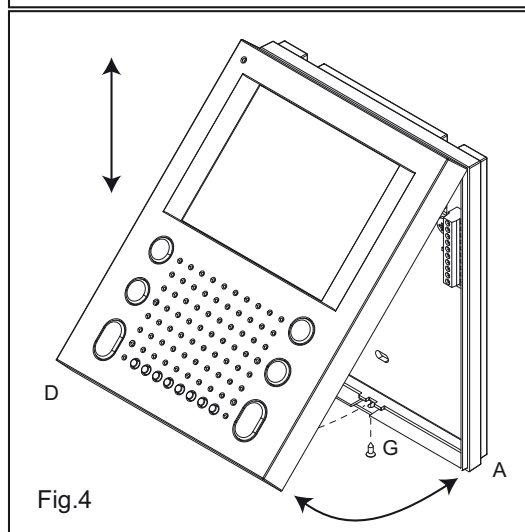

Fig.4
- Hook cover "D" to bottom "A" by using the two clips "J" (Fig.2) as shown in figure 4 then push down cover "D" towards bottom "A". Then proceed with system testing.
- When finished the testing, fix cover "D" at the bottom "A" using the screw "G" (Fig.4).